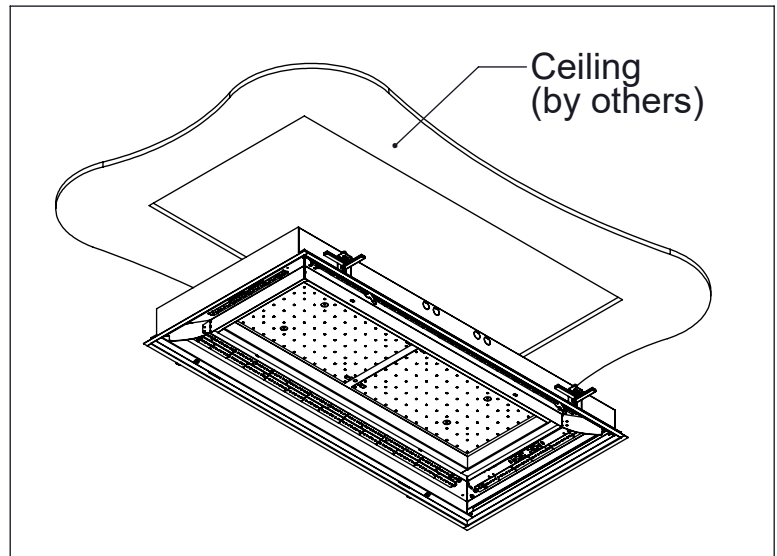

Figure 4
4. Raise fixture into Ceiling (Fig. 4).